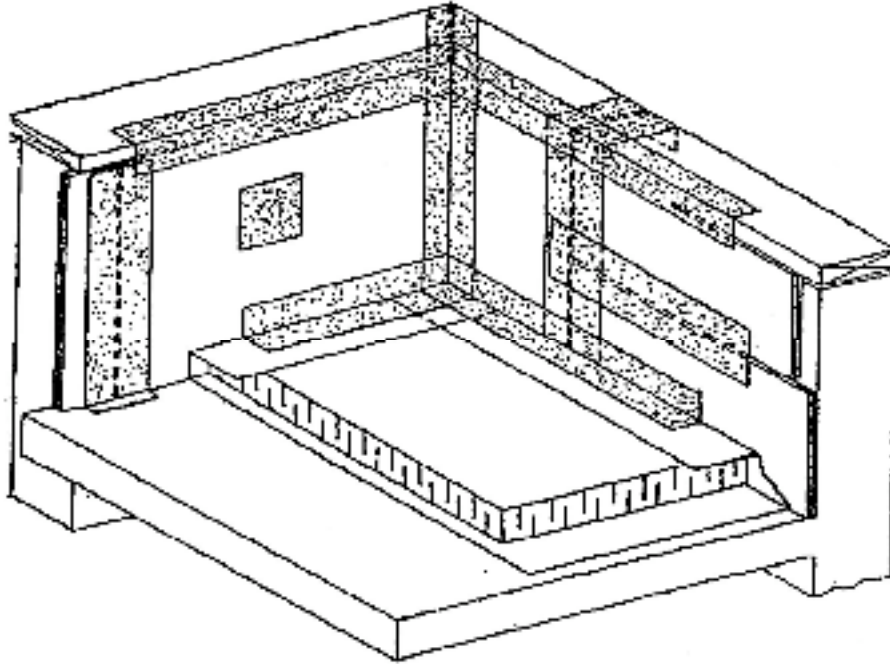

FIG. 1
- .2 Fire prevention tape must be adhered to combustible substrate gaps, cracks, joints and openings prior to the torch application of any modified bitumen membrane. The self adhering tape shall be centered over voids and formed at the angle transitions located at the bases and corners of parapets, curbs, roof/wall junctions and other roof penetrations, see Fig. 1. Leave nothing to chance, always cover all voids prior to lighting the torch. It is recommended that the membrane flashing base sheet be applied the same day as the primary membrane base sheet.